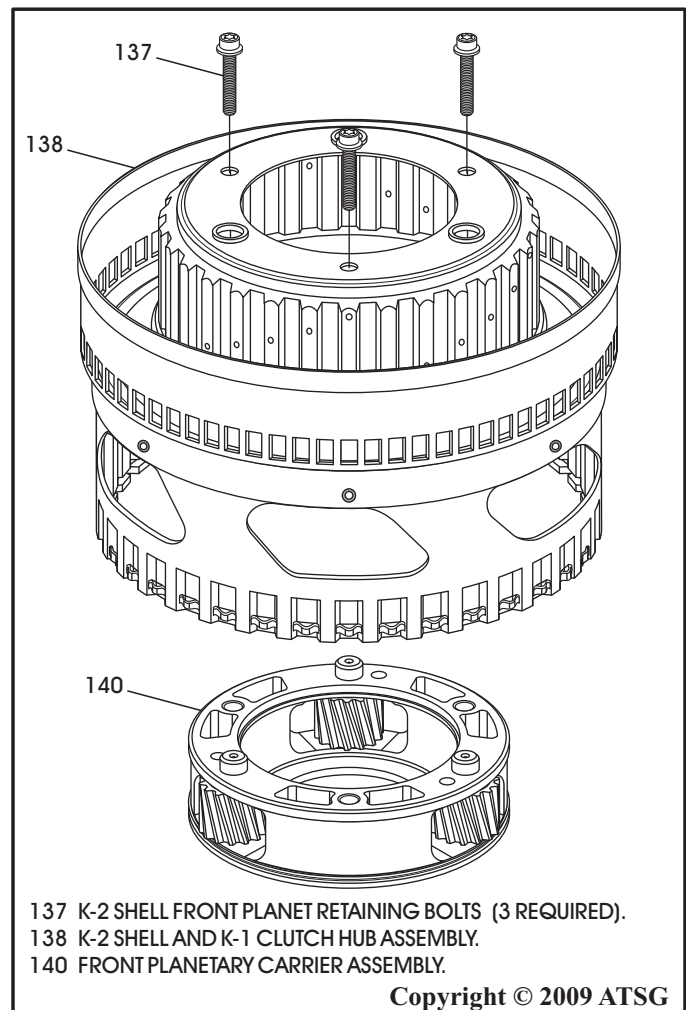

Figure 113
29. Install the front planetary carrier back into the K-2 shell, as shown in Figure 113.
30. Install the three retaining bolts, as shown in Figure 113.